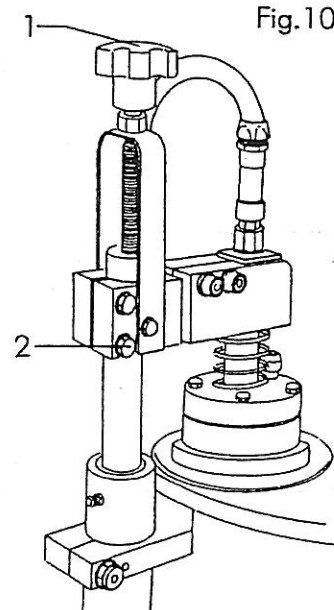

Fig.10.1.14
- Mount the heatwelder in place of the closing device and lock it using the same screw 2 fig. 10.1.14.
- Using handwheel 1 fig. 10.1.14, after loosening 1 and 2, it is possible to vary the pressure of the welding element on the lid.